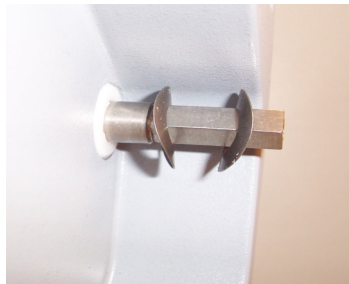

Figure 1: Orient Disk Spring washers as shown.
1. If the Disk Springs were removed; reinstall by orienting each disk spring with the arcs facing each other. Figure 1.